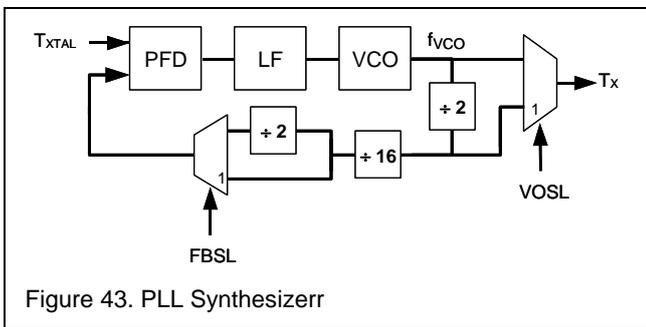

Figure 43. PLL Synthesizer
According to Figure 43 the PLL Synthesizer consist of a fully integrated VCO, Loop Filter (LF), Phase-Frequency Detector (PFD) and a divider chain providing a programmable division ratio of 32 or 64.